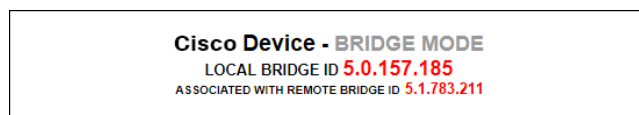

Figure 40. Configurator interface (Unit ID information)
- The unit ID number of the local unit is shown as the **LOCAL BRIDGE ID** (Figure 40 \(page 103\)).